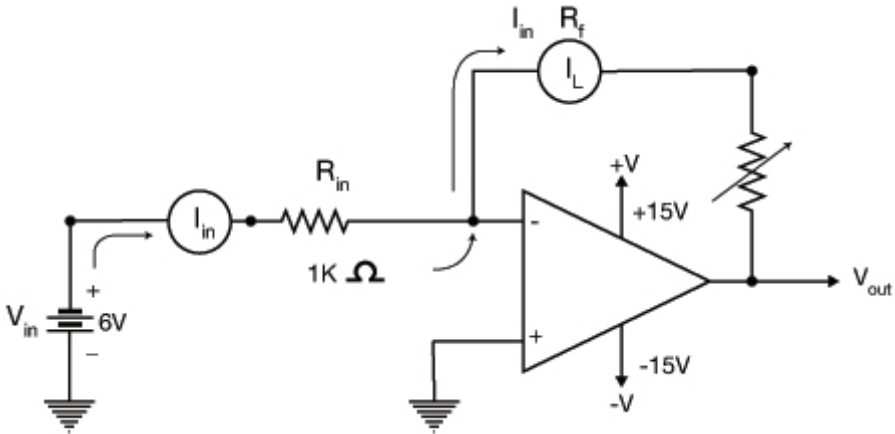

Figure 17.2 Inverting constant-current source.
Another op-amp energy control circuit is the voltage-controlled **constant-current source**. This type of circuit is primarily designed to supply a constant value of current to a load resistance. The resulting load current remains at a constant value even when the resistance of the load changes. This circuit delivers a load current whose value is equal to a fixed resistance times the voltage supplied by an independent source. The resulting current is also independent of any resistance changes that may occur in the load. **Figure 17.2** shows the circuitry of an inverting op-amp constant-current source. In this circuit, a stable voltage source (V_{in}) is connected to the input resistor (R_{in}) which causes (I_{in}) to flow to the inverting input through R_{in} . This is expressed as follows:
We know from previous discussions that the **input impedance** of an ideal op-amp is infinite. This means that (I_{in}) must now find an alternate path in which to flow. In previous circuits, a **feedback** resistor (R_f) has provided an alternate path for I_{in} . Note in **Figure 17.2** that the feedback resistor (R_f) is identified as the load resistor (R_L). Now since the input impedance of an ideal op-amp is nearly infinite, R_L provides an alternate path for I_{in} . This means that, practically, all of I_{in} will now flow through R_L which serves as the feedback path. This also means that I_{in} and I_L are now the same. Since I_L and I_{in} are equal, I_L is determined by the same expression as I_{in} or in this case: $I_L = V_{in}/R_{in}$. This means that a constant-current source derives its operating energy from an independent voltage source and causes a **constant-current** flow to the load resistor regardless of its value.
Determine the I_L of **Figure 17.2** when R_L and R_{in} are both $5 \text{ k}\Omega$ and V_{in} is 10 V . What happens to I_L when R_L changes to $1 \text{ k}\Omega$?
4. In the constant-current source of **Figure 17.2**, the feedback component is:
5. In the constant-current source of **Figure 17.2**, if the value of the load resistor, R_L , is decreased, the load current will: